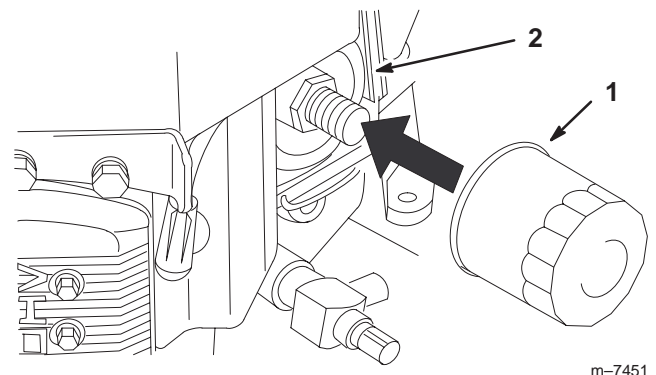

Figure 35
2. Remove the old filter (Fig. 35).
3. Apply a thin coat of new oil to the rubber gasket on the replacement filter (Fig. 35).
4. Install the replacement oil filter to the filter adapter, turn the oil filter clockwise until the rubber gasket contacts the filter adapter, then tighten the filter an additional 3/4 turn (Fig. 35).